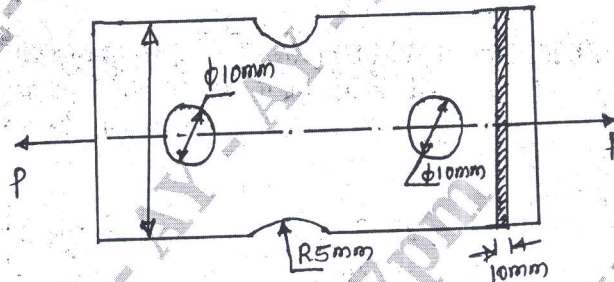

Fig.Q.7(b)
- b. Determine the safe load that can be carried by a bar of rectangular cross section as shown in Fig.Q.7(b). Limiting the maximum stress to  $130\text{MPa}$  taking stress concentration in to account. (10 Marks)